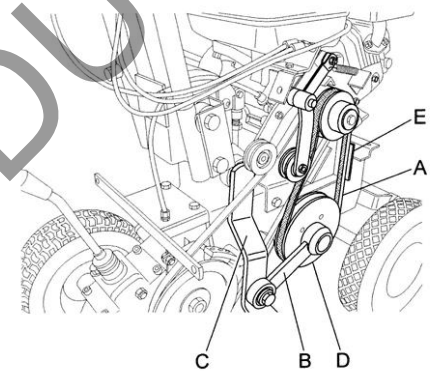

Fig. 7
Disconnect the connecting rod (Fig. 7 Ref. B) by removing the nut and loosening the screw that secure it to the arm (Fig. 7 Ref. C)
- Once the connecting rod has been disconnected the belt can be slipped off (Fig. 7 Ref. A) by manually turning the relative lower pulley anticlockwise (Fig. 7 Ref. D).
- Afterwards check that the belt is correctly positioned by using the relative blade control lever. When this lever is lowered and the belt is at maximum tension, the distance between the belt and the relative belt guides (Fig. 7 Ref. E) should be approximately 2 mm.